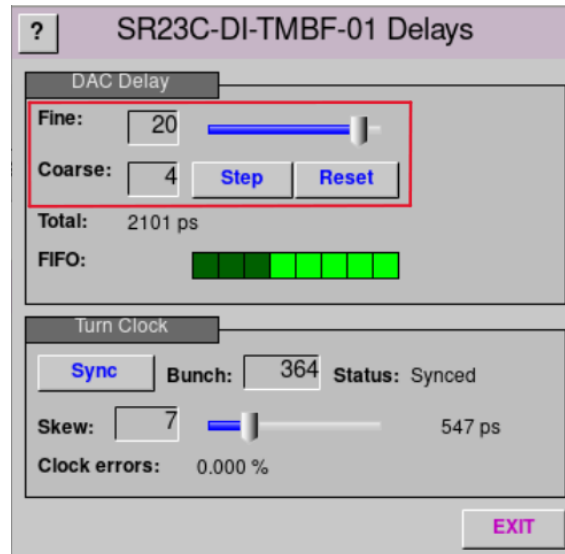

Figure 2.13: DAC delay control screen
- First see if a DAC delay can fix it (using the control panel shown in figure 2.13). This is only available in 2ns steps.